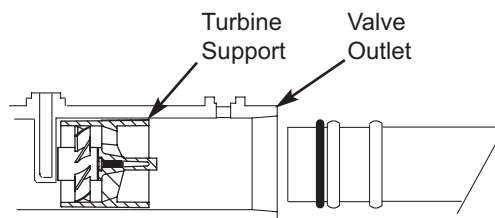

FIG. 9
c. Make sure the turbine support is in place in the valve outlet, as shown in Figure 9.